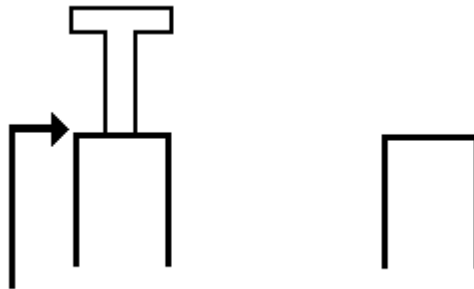

Figure 2. Cut off the head of the standoff flush with the shoulder.
5. Use the Dremel tool with its cutting bit or the bolt cutters to shear off the standoff at the shoulder, the point where the head meets the wider, lower part of the standoff (Figure 2). Be sure to protect the exposed electronics from any debris.